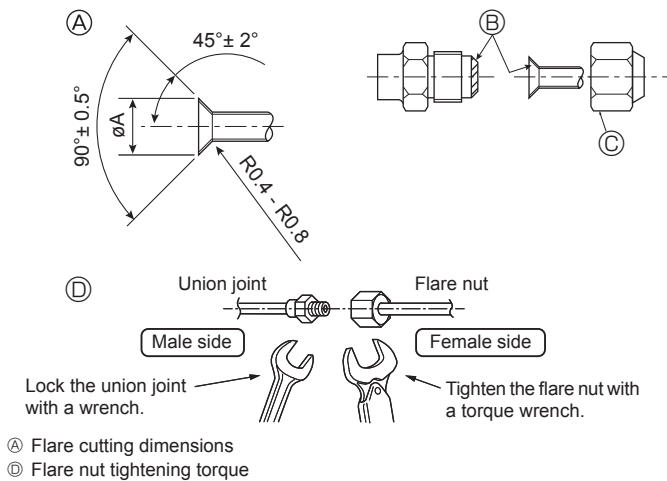

Fig. 4-6
(A) (Fig. 4-6)
(D) (Fig. 4-6)
4.4. Connecting pipes (Fig. 4-6)
- Apply thin layer of refrigerant oil to pipe and joint seating surface before tightening flare nut. (A)
- Apply refrigerating machine oil over the entire flare seat surface. (B)
- Use the flare nuts for the following pipe size. (C)
- Use 2 wrenches to tighten piping connections. (D)